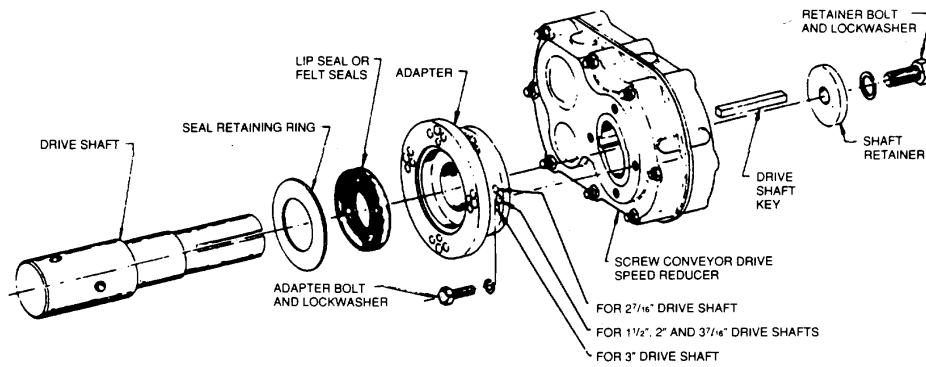

Fig. 1-Assembly.
2. Position adapter on reducer output hub so that small end (end with 12 holes) rests on reducer. Select the 4 mounting holes to match the shaft used (see Fig. 1).